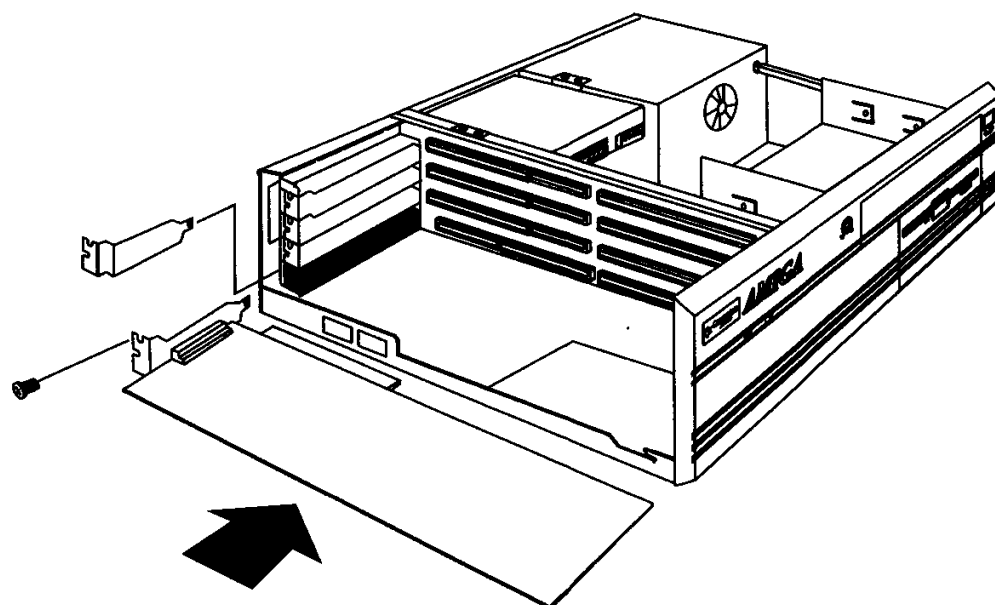

Figure 5-2. Removing cover plate and installing expansion board
5. Slide the expansion board into the slot as illustrated in Figure 5-2. Make sure that the front edge of the board is in the proper grooved guide and that the edge connector(s) are aligned correctly. Press firmly, but do not use excessive force, to seat the edge connector(s) fully into the slot.